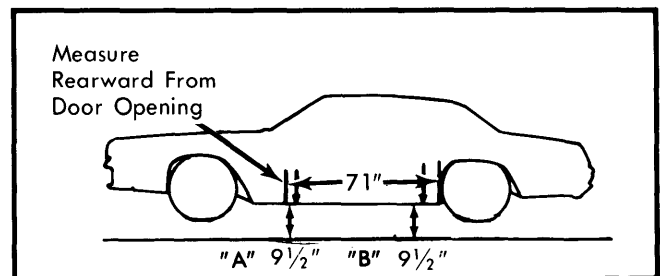

Fig. 31 Riding Height Measuring Points (Oldsmobile Toronado)
2) Measure heights from bottom of rocker molding to floor at points indicated in Fig. 31. Measured heights may differ side-to-side by $\pm 3/4$ ".